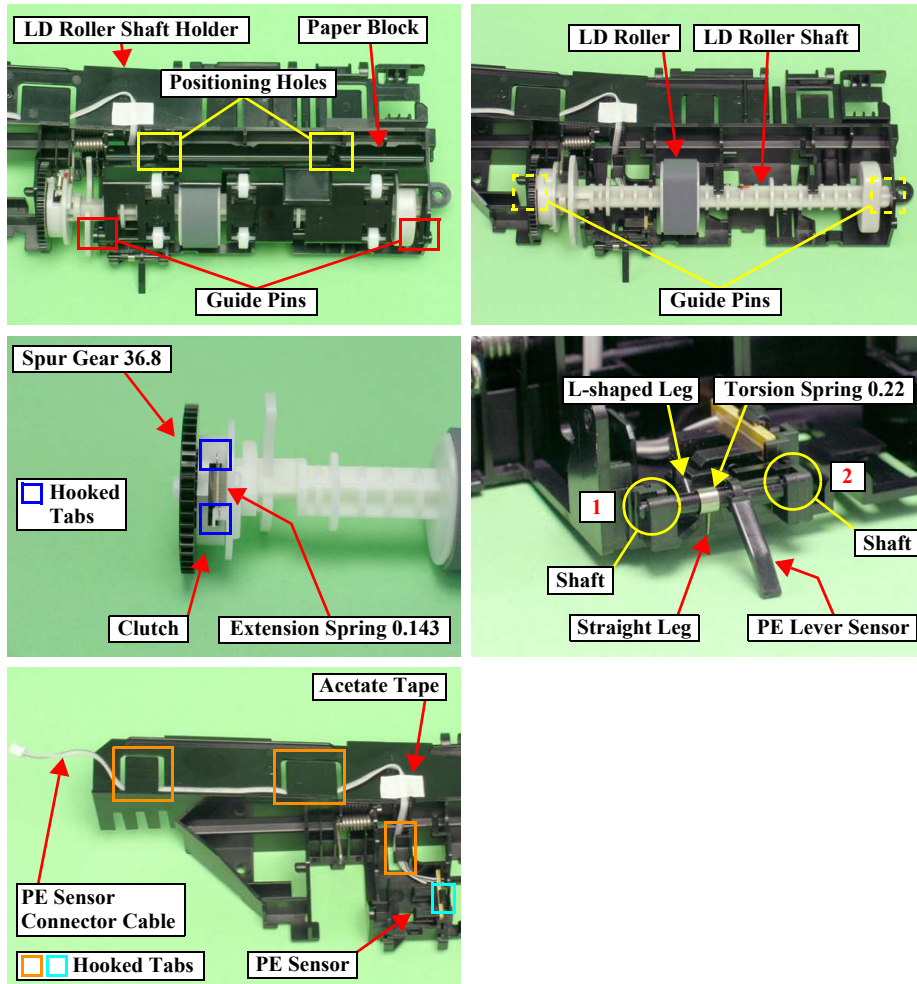

Figure 2-43. Removing the Shaft Assy. Holder (2)
11. Remove the shaft of the PE Sensor Lever from the LD Roller Shaft Holder in the order shown in Figure 2-43, and remove the PE Sensor Lever and the Torsion Spring 0.22.
- Route the PE Sensor connector cable as shown in Figure 2-43. Be sure to route the cable under the two ribs of the LD Roller Shaft Holder.
- Set the two positioning holes of the Paper Block onto the shaft. See Figure 2-43.